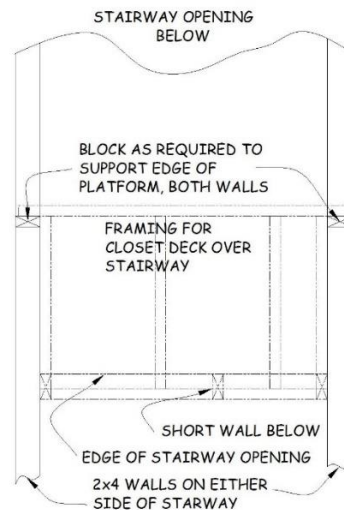

Figure 3-12. Stud Layout Around Stairway Opening.
- d. Locate the plates labeled '13¾" WALL/10¾" STUDS' and layout two end studs and one interior stud 24" o.c. (see Figure 3-12 and Section 6.4).